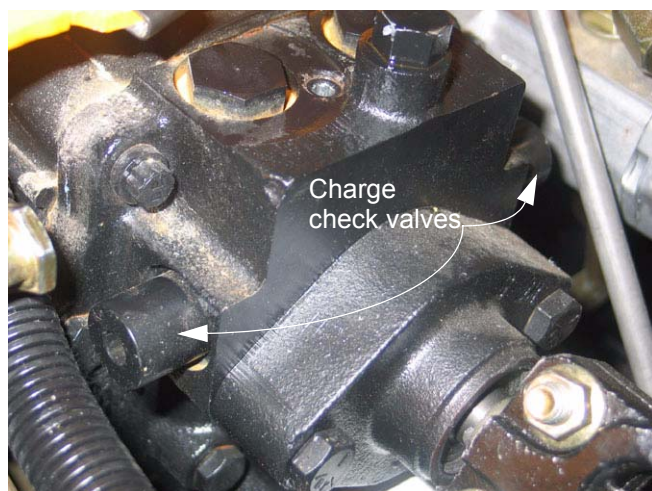

Figure 5.9
5.9. If the charge pump is working, but drive has been lost in one direction only, one of the charge check valves may not be working. See Figure 5.9.